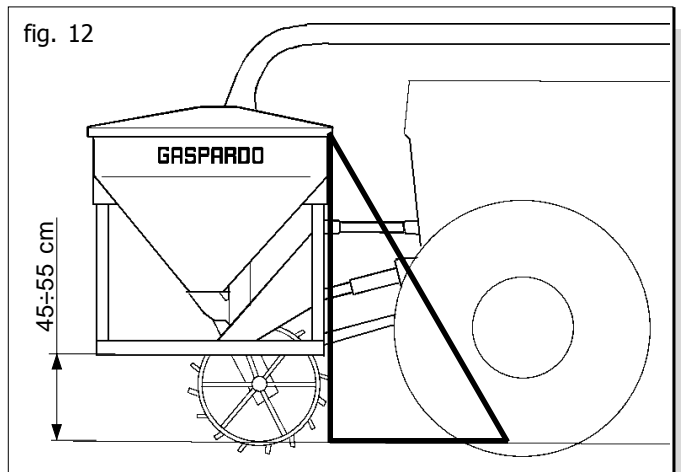

fig. 12
- 2) Connect the third upper point (2 Fig. 10); the pin will be blocked with the appropriate split pin; use the adjusting tierod (1 Fig. 10) to keep the equipment perpendicular to the ground (Fig. 12)
- 5) Raise the front machinery and remove the feet. In order to guarantee the rotation of the transmission wheel, adjust the working height of the machinery from the ground (45 – 55 cm Fig. 12). This distance must remain constant during operation.